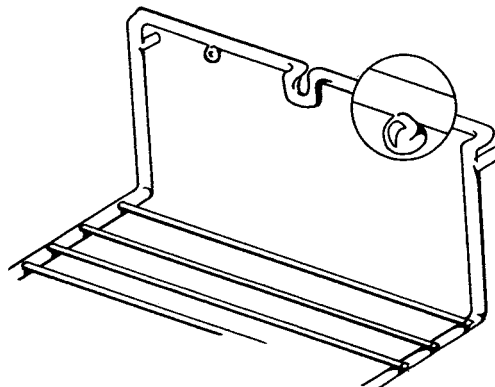

Figure 23.
- Lock into place by pushing rack to left. Be sure round knobs are securely in place. See Figure 23.